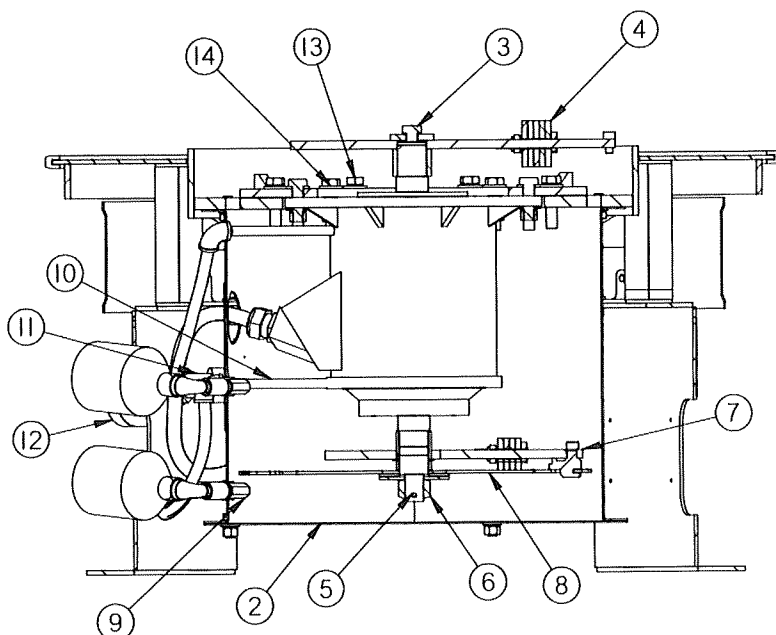
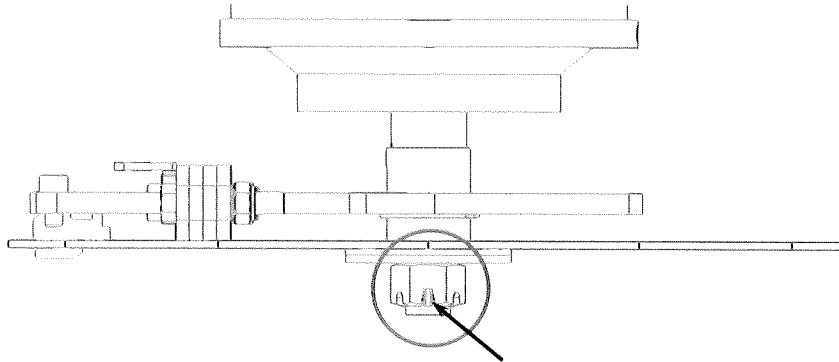

Figure 25 HX Separator Cross-Section, Frames and Table Frame Removed
Figure 26 Lower Motor Weight Cotter Pin (Arrowed) and Retaining Nut (Circled), Detail Views
5. Remove the lower motor weight guard (Figure 25, Item 2).
6. Remove the center bolt securing the top motor weight (Refer to Figure 25, Item 3).
7. Pull top motor weight and arm free from motor (Refer to Figure 25, Item 4).
8. Remove the cotter pin (Refer to Figure 25, Item 5) and nut (Figure 25, Item 6) underneath the lower motor weight (Refer to Figure 26 for detail view).
- a. Carefully support the lower motor weight (Refer to Figure 25, Item 7) and carrier plate (Figure 25, Item 8) before completely removing the cotter pin and nut. This will prevent them from falling uncontrollably.
- a. Loosen both the upper and lower lines and detach at the base weldment (Refer to Figure 25, Item 9).
10. Loosen the electrical cord grip (Refer to Figure 25, Item 11) and remove the cord from the junction box (Refer to Figure 25, Item 12) to pull free.
12. Thread a M12-1.75 shouldered lifting bolt where the upper motor weight bolt (Refer to Figure 25, Item 3) threads to the motor.